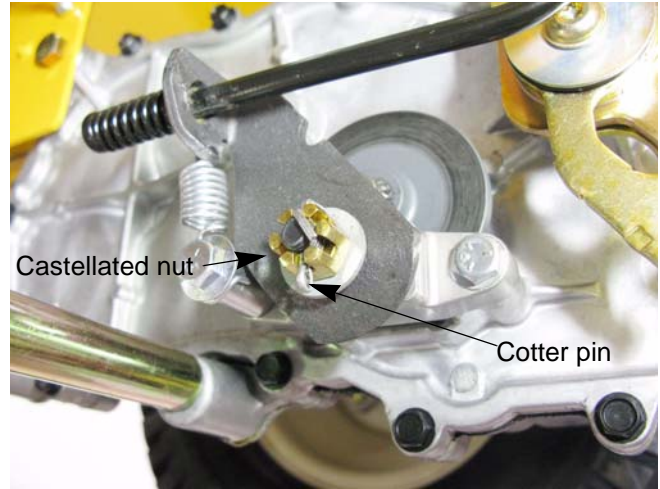

Figure 4.3
3. Remove the cotter pin locking the castle nut on the brake caliper. See Figure 4.3.